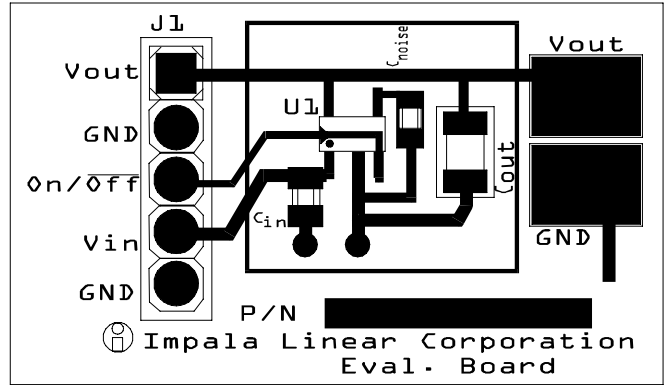

Figure 9: Recommended application circuit layout ( not drawn to scale)
4. Maintain a separate "LOCAL GROUND" remote from the "GROUND PLANE" to ensure a quiet ground near the LDO. Figure 9 shows how this circuit can be translated into a PCB layout.